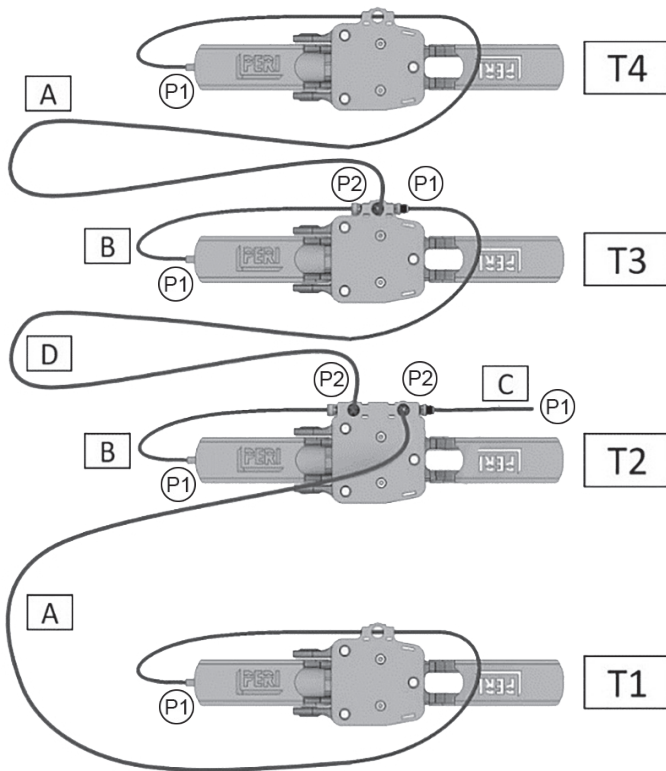

Fig. 09 Sensor group
4. Connect the sensors to each other as shown in Fig. 09.